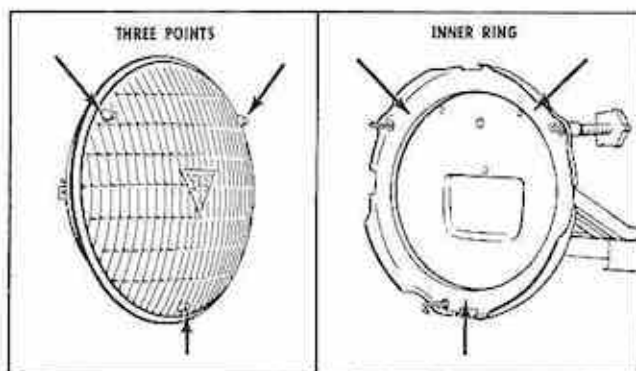

Fig. 111 Safety-Aimer Headlamp and Aimer
3. Using spring-loaded hooks of Safety-Aimer to engage headlamp retaining ring, fasten T-3 Safety-Aimer on each headlamp with inner ring against points on lens and cross arms horizontal (Fig. 111). (Aimer with the string should be fastened to left headlamp.)